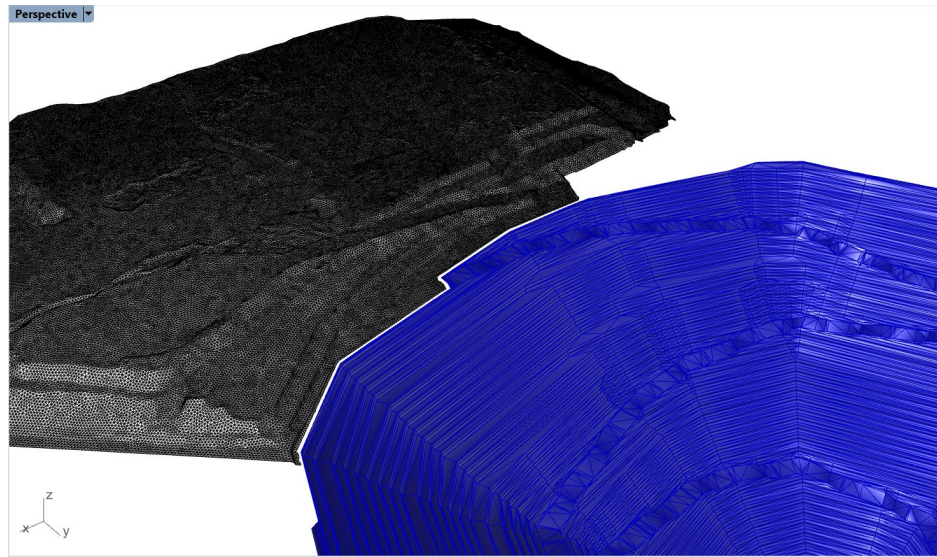

Figure 79: A gap between the pit and pit dump meshes.
13. Unhide the rest of the dump mesh with the **\_Show** command. First select the remaining thin layers of faces and add the main pit dump mesh to the selection. Type the **\_Join** command to join all meshes. Now a small gap between the pit and the dump meshes can be clearly visible as in Figure 79 (turn on “Pit” layer to check).